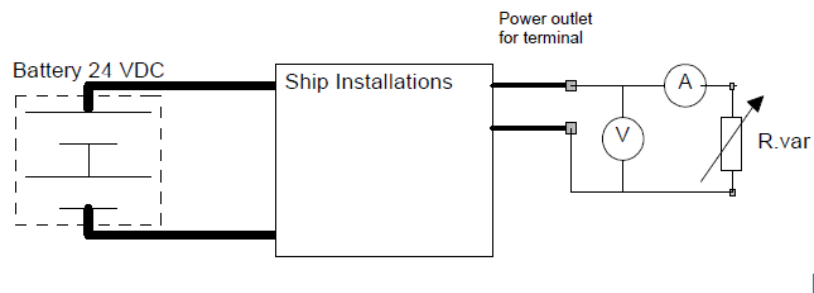

Figure 5-1: Measuring the ship source impedance
1. Measure the source impedance in the ship installation as shown in Figure 5-1.